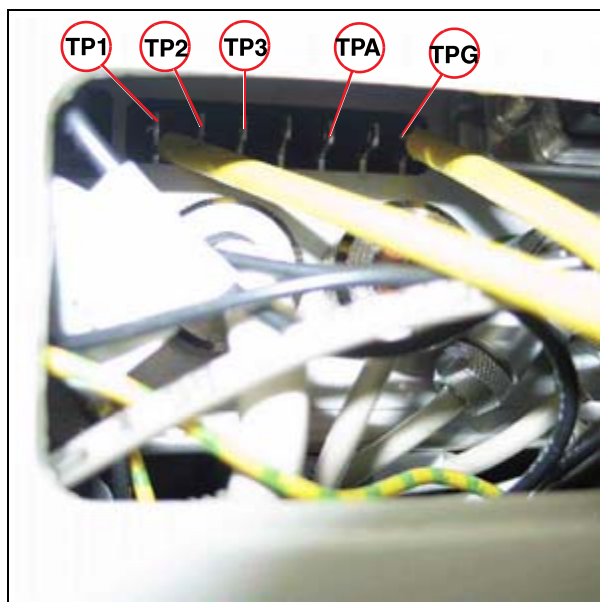
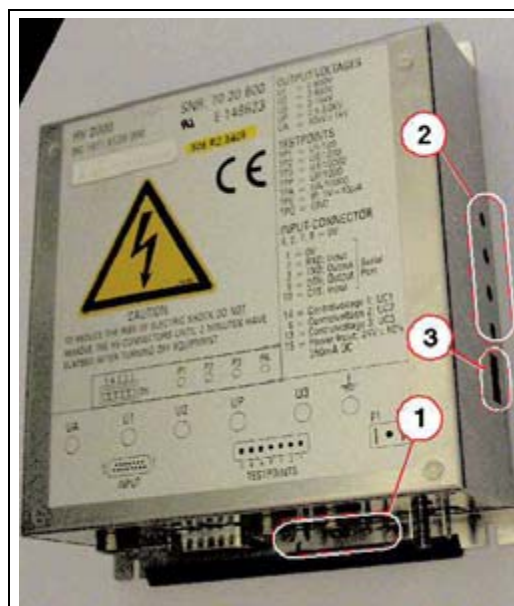

Fig. 22: measuring_points
Fig. 23: I.I. power supply
2. To measure the voltages, remove the RS 232 connector cover on top of the image intensifier to get access to the test points (Fig. 22 / p. 48) (1/Fig. 23 / p. 48).
- ⇒ The dip switches (3/ Fig. 23 / p. 48) must be set according to the following table.
2. Adjust / measure the voltages at the following potentiometer (2/Fig. 23 / p. 48) and measuring points (1/Fig. 23 / p. 48).